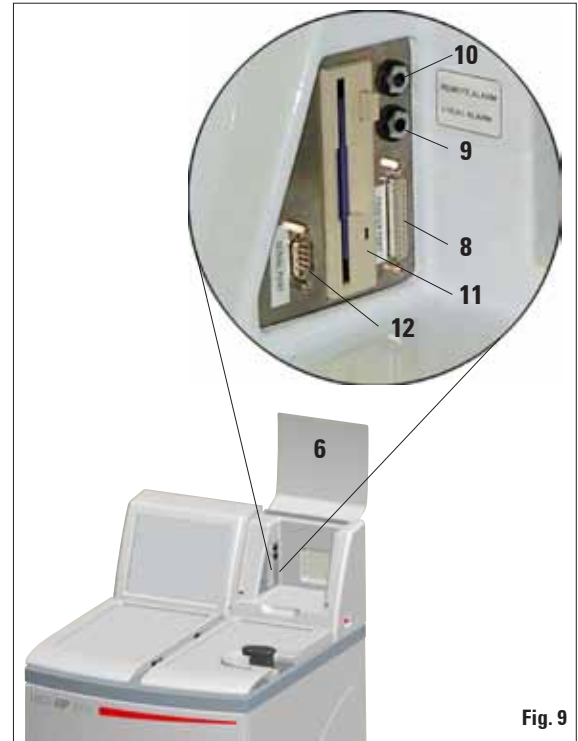

Fig. 9
- Swing the door of the instrument console (6) upwards.
- Connect the printer to the printer port (8) using a Centronics standard cable. (Fig. 9)
If required, connect the local or remote alarm system to the appropriate sockets (34) (Ø6.3 mm) to the jacks provided for this purpose (Fig. 9, 9 + 10).